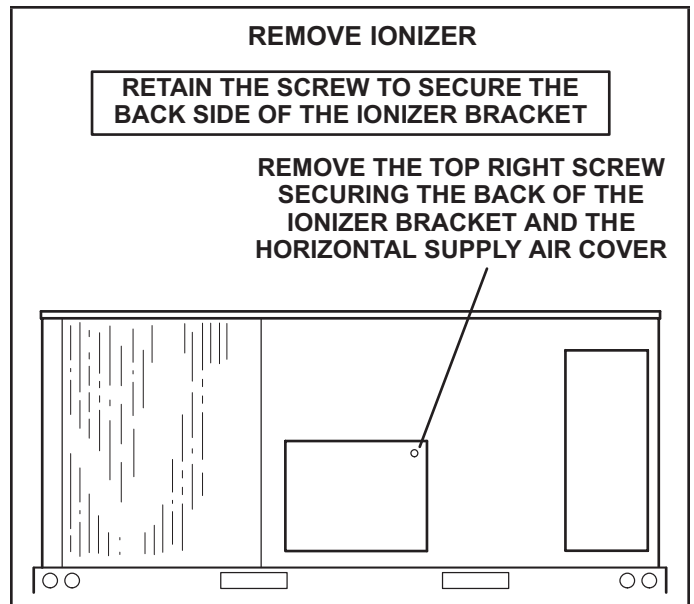

FIGURE 26
- 1 - On the back side of the unit, remove the screw securing the back of the ionizer bracket. See FIGURE 26. Retain the screw to secure the back side of the ionizer bracket.